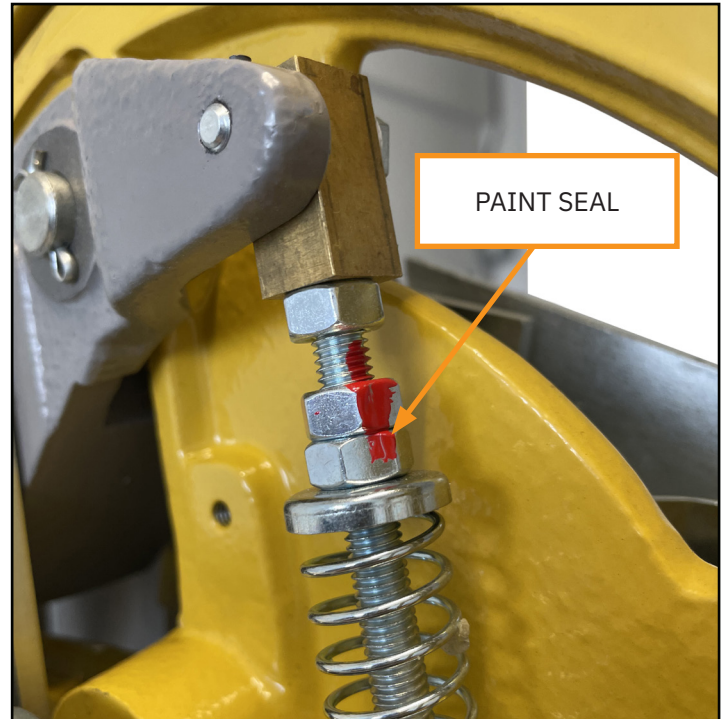

Figure 1
2. Check and ensure that all the Paint Seals are intact (*see figures 1,2&3*). Governor is calibrated and sealed from the factory and if any of the seals are tampered with or missing, do not use the unit. In this instance, unit has to be checked for calibration.